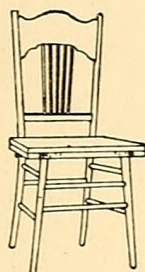

FIG. 57.
**A Chair Saw-bench**, prepare a wooden cover that can be placed over the seat as shown in Fig. 57. Make this cover 20 inches long and 16 inches wide; fasten the boards together at the ends with battens of just the